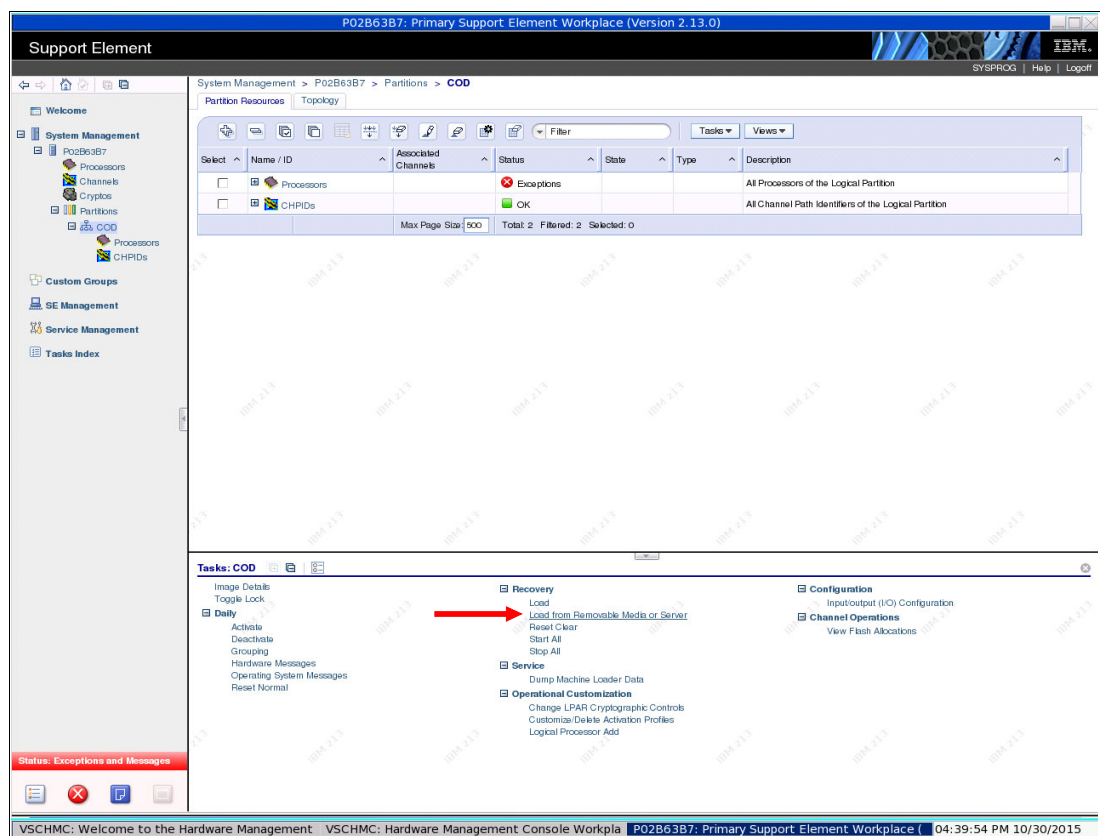

Figure 8-4 Load system from removable media or server
2. We select **System Management** → **P02B63B7** (our z13 server name) → **Partitions** → **COD** (our COD LPAR name). In the Tasks tab at the bottom of the window, we select **Recovery** and then, click **Load from Removable Media or Server**, as shown in Figure 8-4.